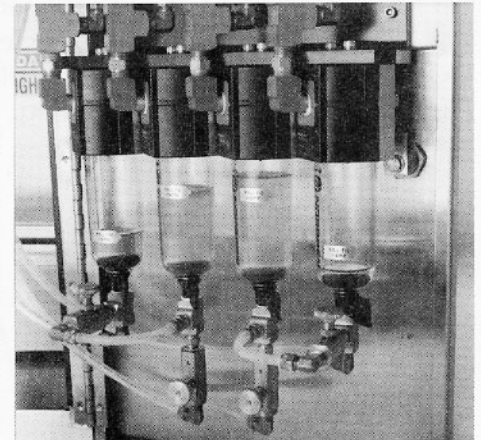

Fig. 35
If the Mineral Oil Level in Reservoir (C) is above the full line and the Oil Level in Reservoir (D) is below the full line (see fig. 35), turn Air ON, turn Main Power Switch ON (see fig. 1), and press the Reverse Button. This activates the Motors and the Right Dressing system. Push On-Off Button OFF. This deactivates the Motors, however, the Right Dressing System is still activated. ***This next step may require TWO PEOPLE to perform.*** PUSH IN AND HOLD the Right Dresser Button next to the Reverse Button. Loosen Locking Nut on Right Oil Leveling Valve. Open the Right Oil Leveling Valve COUNTERCLOCKWISE. Oil will flow from (C) to (D). When the oil level in (D) is approximately 1" above the full line, turn the Right Oil Leveling Valve CLOCKWISE TO STOP the flow of oil. Release the Right Dresser Button. Check oil levels. Repeat these steps if necessary. Retighten Locking Nut on this Valve.